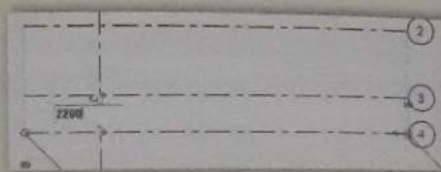

Figure 28: Temporary Dimensions.
9. You can edit the grids with the help of temporary dimensions (Figure 28).